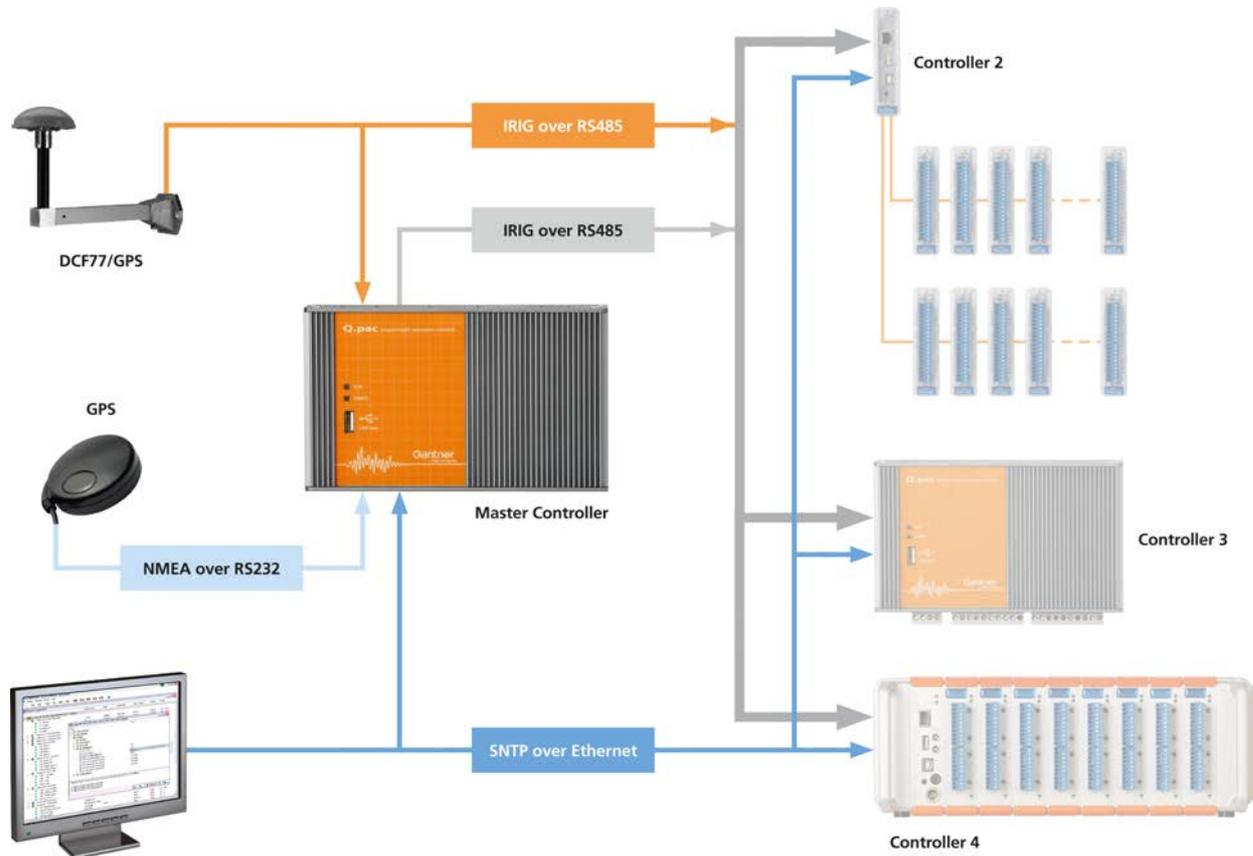

Fig. 4-3 Possible types of time synchronization.
You have various methods of obtaining synchronization, even with several *systems* (refer also to Fig. 4-3 on page 21):
The master controller (first device in the chain of devices) uses its internal clock for the date/time stamp (gray path in Fig. 4-3). For this type of synchronization you must lay synchronization lines between the Test Controllers; the maximum length of all lines together is 1000m. The order of connection is not important. The master controller transfers the time stamp via an RS-485 link to the other Test Controllers.
As master controller this then synchronizes all other Test Controllers using IRIG (orange colored path in Fig. 4-3) as with Variant 1. If it is not possible to connect the individual Test Controllers via synchronization lines or this is not desired, you can also connect a receiver to each Test Controller (Variant 2b).
With this method the time information of the GPS signal is evaluated instead of a pure time signal. In addition you can also process the position details of the GPS receiver in the system and assign the measurements (light blue path in Fig. 4-3). If it is not possible to connect the individual Test Controllers via synchronization lines or this is not desired, you can also connect a receiver to each Test Controller (Variant 3b).
4. You define a PC as an SNTP time server which can distribute the NTP time stamp to all Test Controllers (dark blue path in Fig. 4-3).